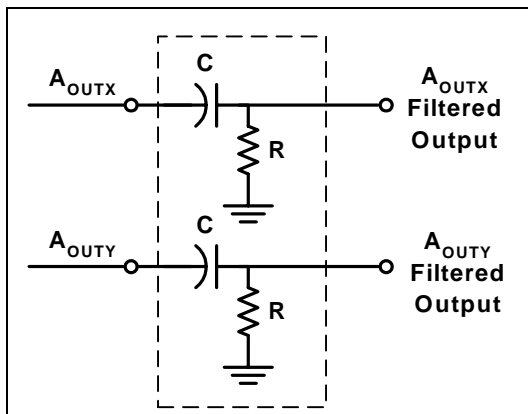
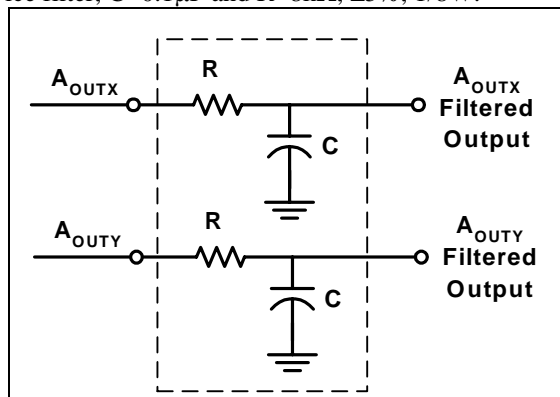

Figure 2: High Pass Filter
Figure 3: Low Pass Filter
**AC Coupling:** For applications where only dynamic accelerations (vibration) are to be measured, it is recommended to ac couple the accelerometer output as shown in Figure 2. The advantage of ac coupling is that zero *g* offset variations from part to part and zero *g* offset change over temperature can be eliminated. Figure 3 is a HFP (high pass filter) with a -3dB breakpoint given by the equation:  $f = 1/2\pi RC$ . In many applications it may be desirable to have the HFP -3dB point at a very low frequency in order to detect very low frequency accelerations. Sometimes the implementation of this HFP may result in unreasonably large capacitors, and the designer may turn to digital implementations of HFPs where very low frequency -3dB breakpoints can be achieved.